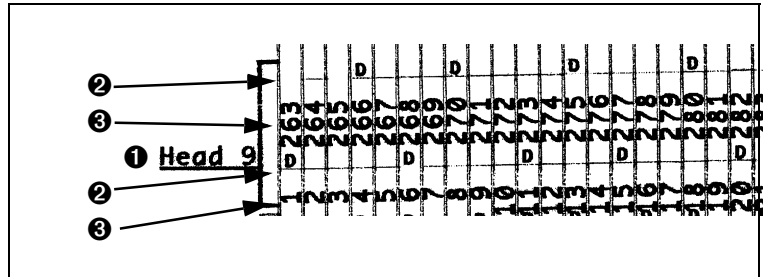

Fig. 4-19. Sample jet mapping pattern
- ❶ Head number
- ❷ Test pattern and codes
- ❸ Jet number
- ◆ If a line segment is missing or broken, the jet listed in the same column is out. In Fig. 4-19, jets 263 and 265 are out.